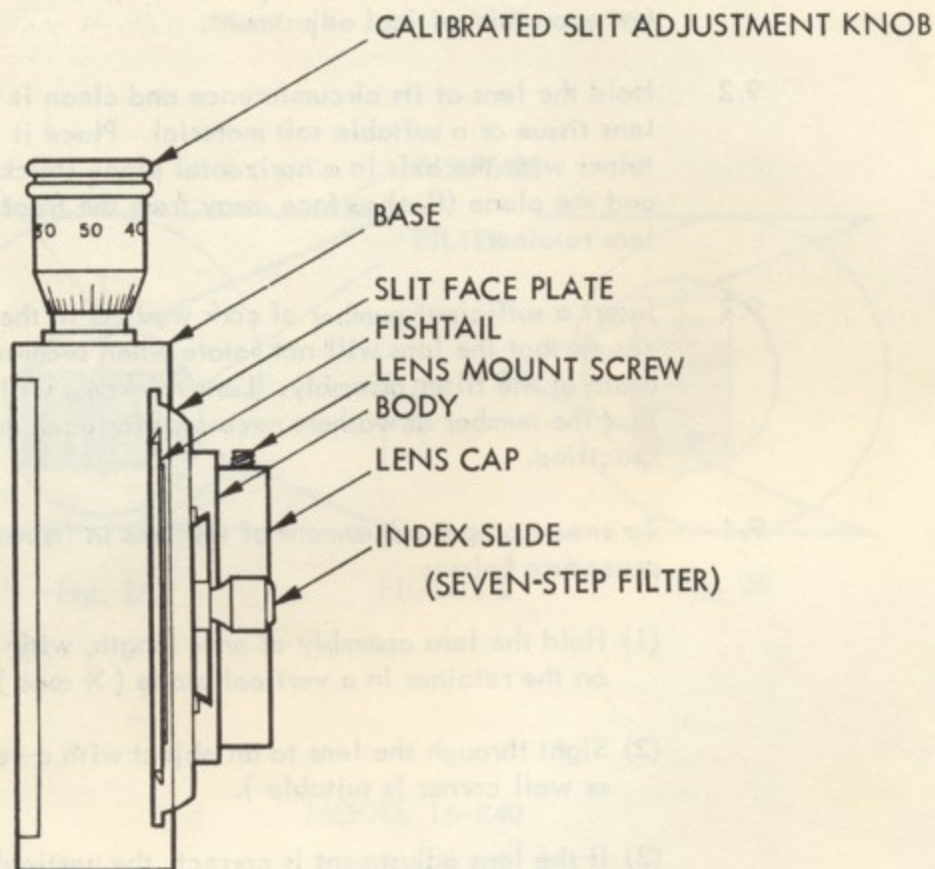

Figure 4
8. Move the slide to the fourth notch to center it horizontally. See Figure 4, for assembled bilateral slit, Model 16-830, and lens mount.